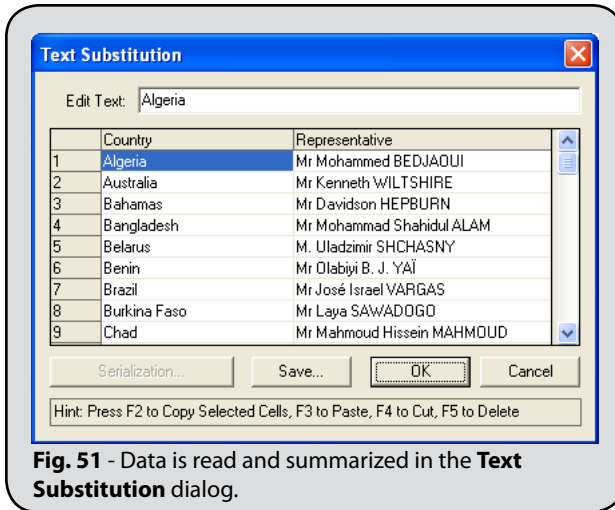

Fig. 51 - Data is read and summarized in the **Text Substitution** dialog.
2. The **Text Substitution** dialog will open (Fig. 51).